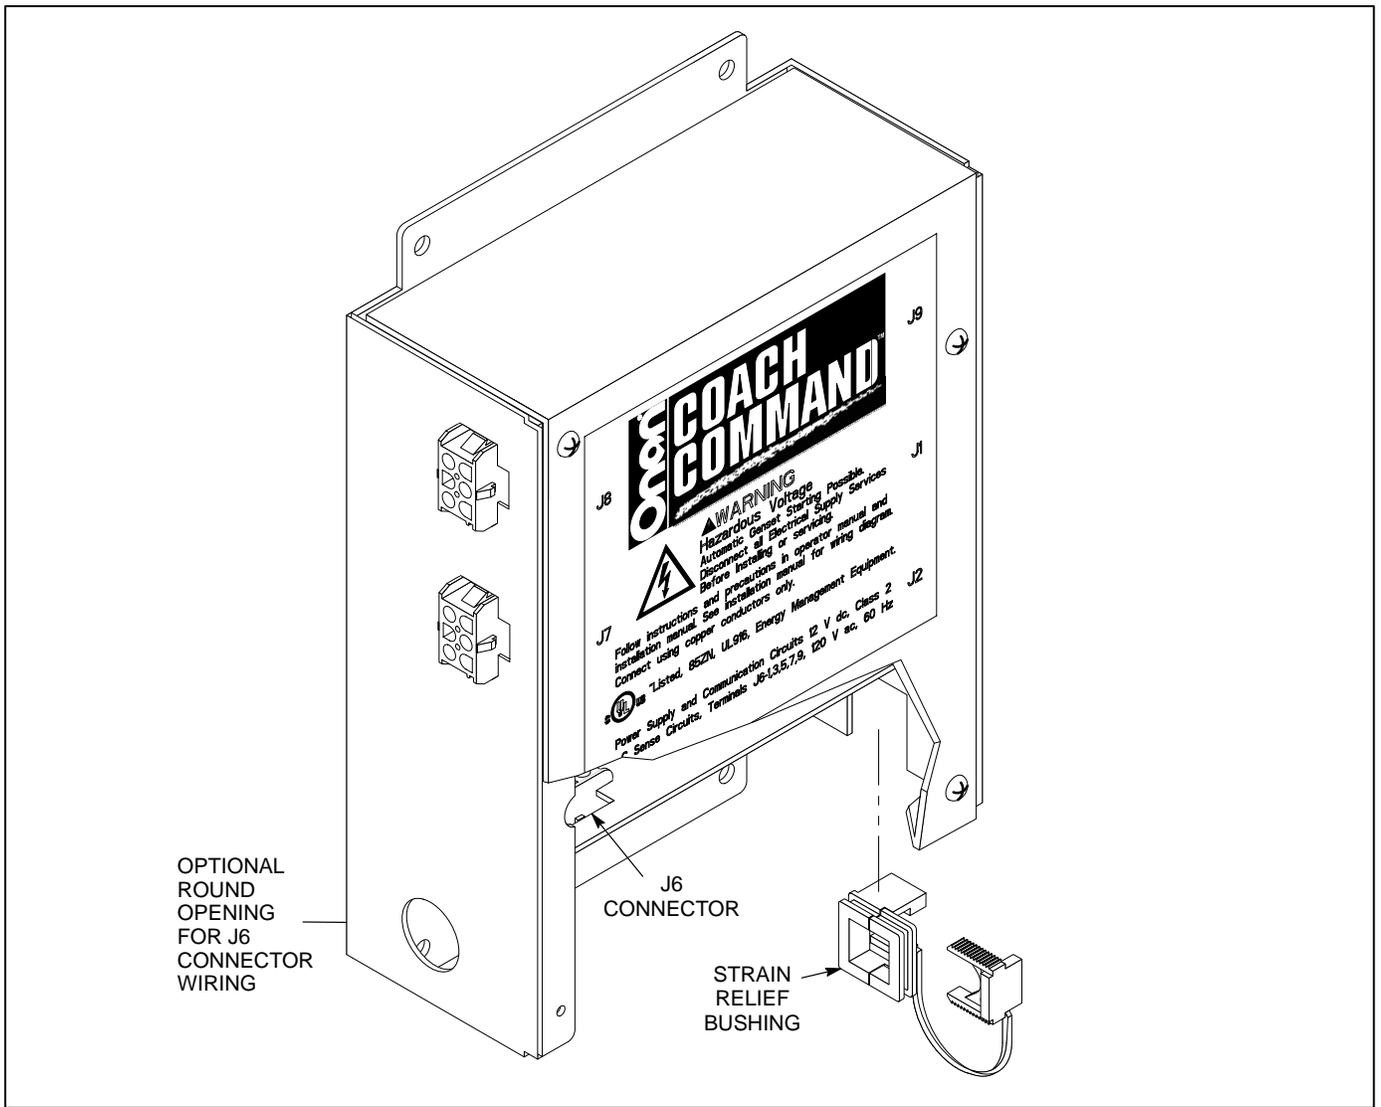

FIGURE 9-4. TRANSFER SWITCH NODE– J6 CONNECTOR WIRING INSTALLATION
7. Two knock-out openings in the transfer switch node box are available for routing wires or cables to the J6 connector located inside the box (see Figure 9-4).
- A square opening is located on the bottom right side of the transfer switch node box. Secure the wires for the mating J6 connector with the supplied strain relief bushing. Insert the strain relief bushing into the slot as shown in Figure 9-4.